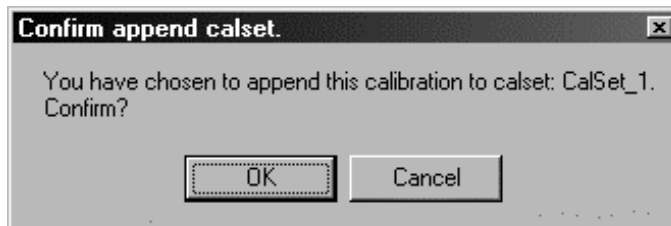

Figure 11. Appending a calibration to an existing CalSet.
- As the final step, the Calibration Wizard will then ask if appending this calibration to the existing one is desired, as shown in Figure 11, simply click **OK** to confirm. Once finished, the same calset will cover both calibrations, 1-port for S11 and thru response for S21. This way, when you click on S11, the status bar (located on the bottom of the display) shows **C 1-Port**, and when you click on S21, it shows **C Response**.